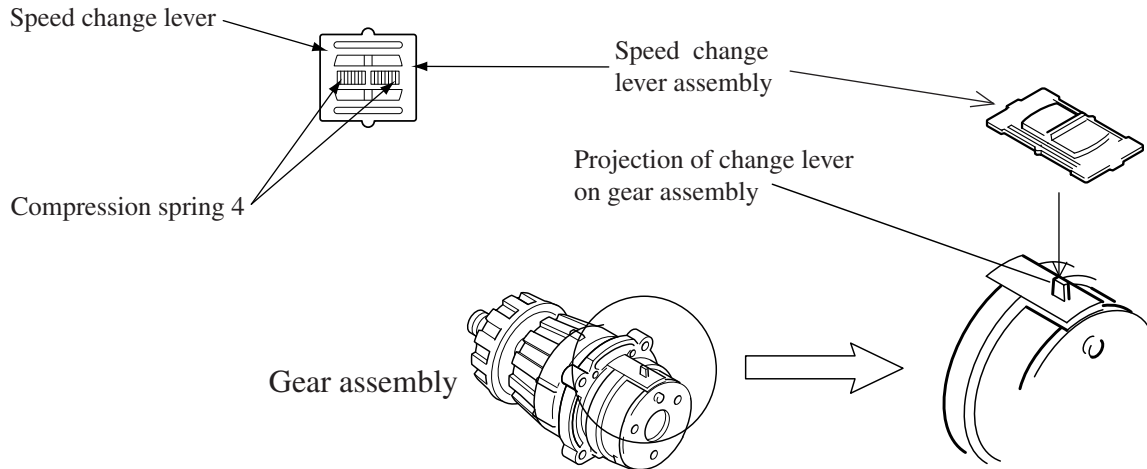

Fig. 7
- 2 Be careful that compression spring 4 may not comes out. Install speed change lever assembly on the projection of change lever as shown in Fig. 7.